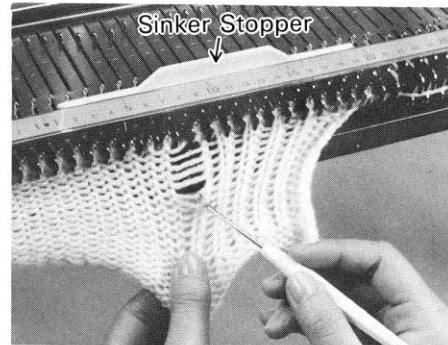

Fig.48
This method will enable you to pick up the stitches more easily when knitting a ribbed welt.(see Figs.48 & 49)
- a) Place the sinker stopper in position between the sinker butts and the front rail. (Fig.48)
- e) Holding the fabric firmly in the left hand knit up the stitch with the latch needle tool and place it back on the empty needle (Fig.48), see also Fig.49. Repeat for each rib. Remove sinker stopper before knitting.
- c) Place the sinker stopper between the sinker rod butts and the front rail. (Fig.48)
- e) With all loops hooked on to the needles bring the needles forward into the holding position (E).